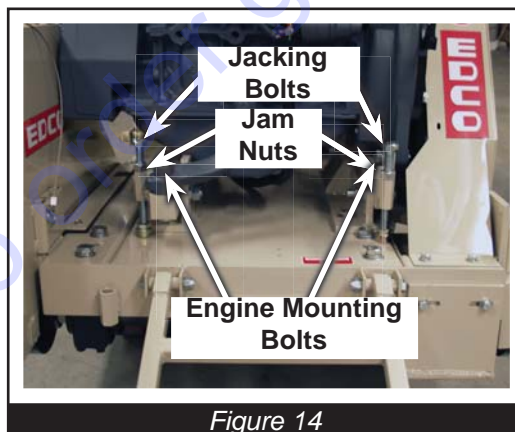

Figure 14
- Loosen engine mounting bolts and jam nuts then turn jacking bolts to lift or lower engine mount. Lift engine to tighten belts lower engine to loosen/replace belts. (Figure 14)